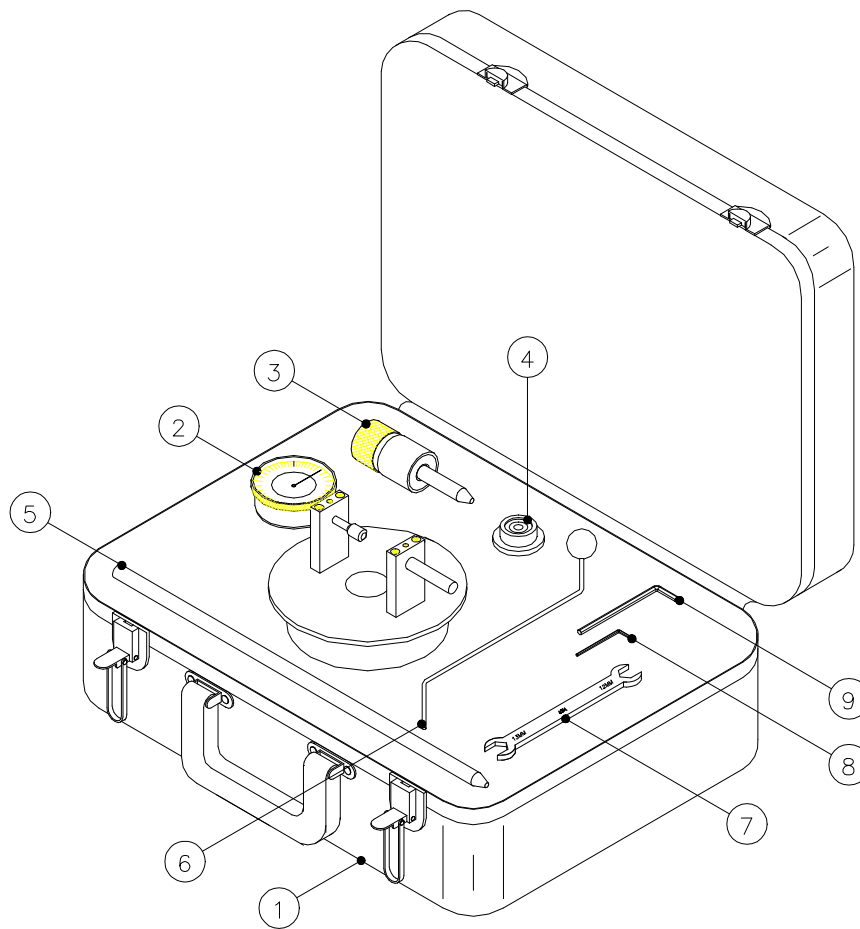

Figure 2
The Hanson Dissolution Alignment Kit (see fig 2) includes all tooling and precision gages required to (1) adjust system level, (2) check spindle and vessel axis alignment, (3) check spindle axis squareness, (4) check paddle / basket shaft straightness and (5) adjust paddle / basket height. The complete kit comes packaged in a convenient case designed to protect the precision components during storage. Also included in this manual is a Suitability Data Record page which may be copied and used to record actual measurements. The Kit was designed for use on Hanson Dissolution Test Stations (models SR-2, SR-6, SR-8 and SR8-Plus).